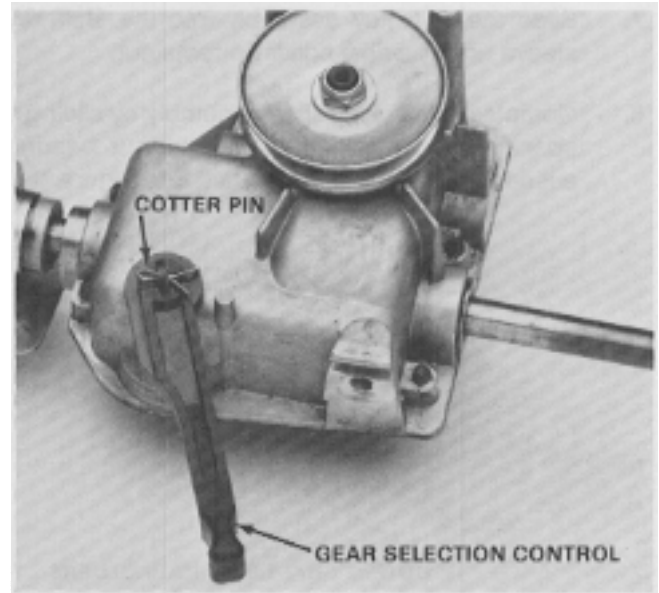

Figure 52
1. Mount the gear selection control lever on the shift fork and secure with a cotter pin. See Figure 52.